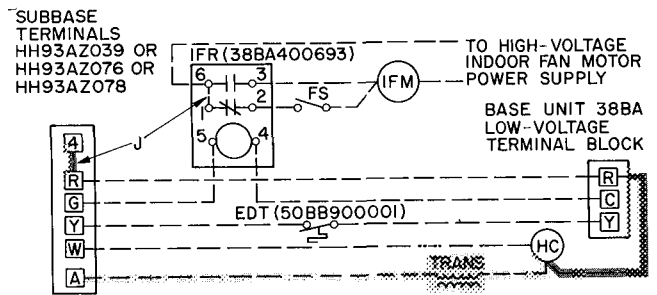

**Fig. 4 – Recommended Filter-Drier and Sight Glass Locations (Field Installed)**
**Sight Glass and Filter-Drier** — Every unit should have a filter-drier and sight glass installed. Because of the variety of preference of filter-driers, neither filter-drier nor liquid-moisture indicator is factory supplied. Select the filter-drier for maximum unit capacity and minimum pressure drop. Figure 4 shows recommended locations of field-supplied filter-drier(s) and sight glass. Complete the refrigerant piping from the evaporator to the condenser before opening the liquid and suction lines at the condensing unit.
6. Connect field-supplied filter-drier and sight glass in the liquid line ahead of the thermostat expansion valve. Sight glass should be located between the filter-drier and the thermostatic expansion valve as shown in Fig. 4. Tighten expansion valve inlet connection.